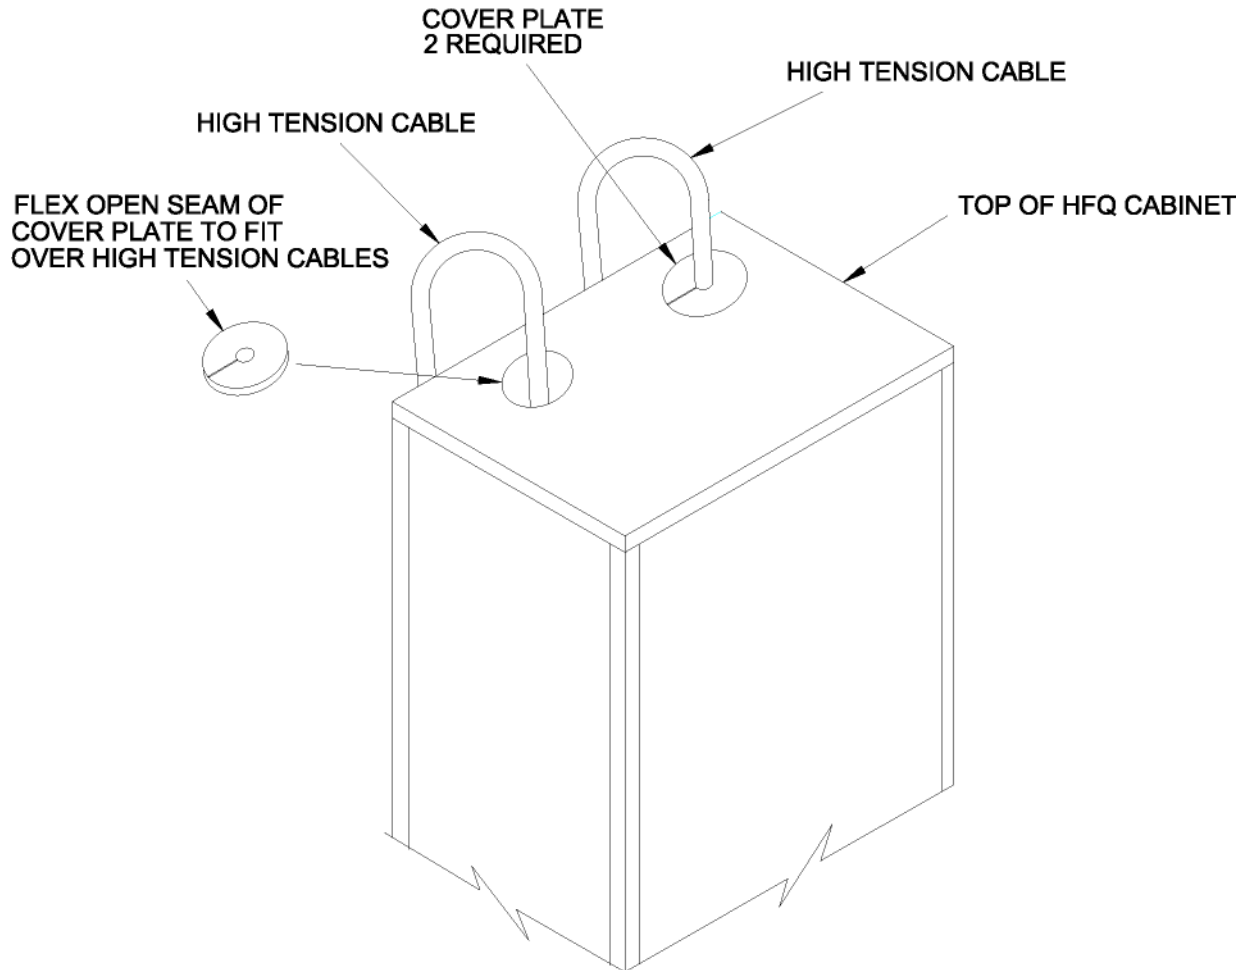

Figure 5-2c Cabinet Top Cable Assembly
7. Place cover plates around the high voltage cables on the outside of the cabinet in order to close off large openings as shown in Figure 5-2c, page10, Sec E.